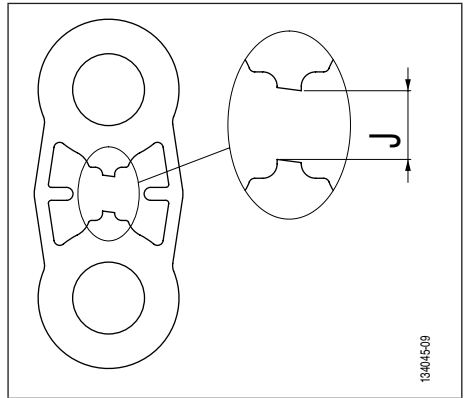

Fig. 7
2. Check that the TA test plate is correctly secured (Fig. 2, page 4 and Fig. 7, page 6).
! DANGER: The maximum clearance 'J' (Fig. 7, clearance J) must not exceed 15 mm.
2. On shearing of the 'S' control section of the TA test plate (*Fig. 7*), the operator must immediately stop his action on the loading device. Failure to do so may result in total shearing of the plate.
8. Continue loading of the TA test plate after the 'S' control section (see 5.2. *Test procedure, Fig. 7*) has sheared.